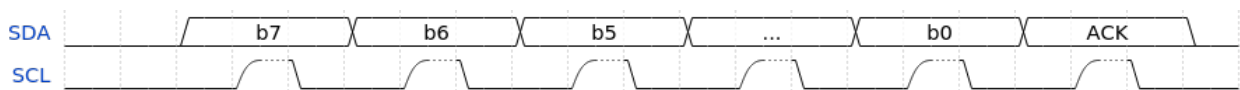

Figure 4: I²C write byte
If the read/write bit of the transaction start is 1 then the master will execute a sequence of writes. Each read consists of the master driving the clock whilst and also driving the data for 8-bits (most significant bit first). At the end of each byte, the slave drives another clock pulse and will either drive either an ACK (0) (signalling that it can accept more data) or a NACK (1) (signalling that it cannot accept more data) on the data line. After the ACK/NACK signal, the master can complete the transaction with a stop bit or repeated start. A write byte sequence is shown in Figure 4